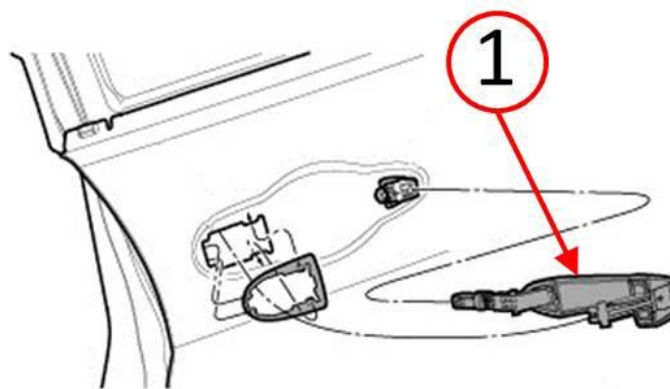

Fig. 9 Install Door Handle
10. Insert the front of the exterior door handle into the door then rotate the door handle until it is flush with the door (Fig. 9).